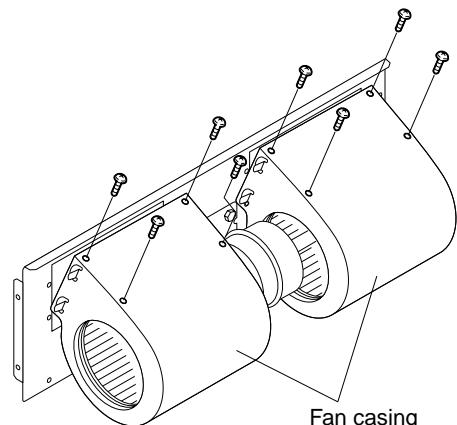

Fig. 6
(3) Remove 8 screws holding the fan casing. (Fig. 6)